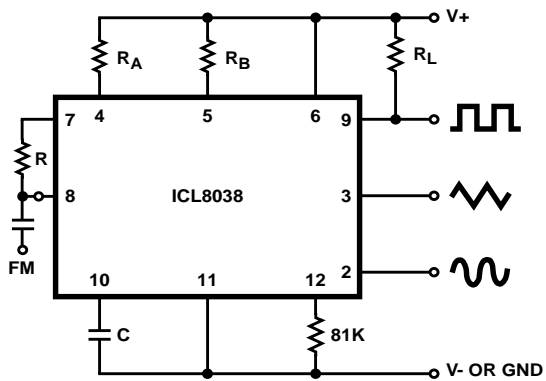

FIGURE 5A. CONNECTIONS FOR FREQUENCY MODULATION
- $V_{\text{SUPPLY}} = 20\text{V}$ ;  $R_A$  and  $R_B = 10\text{k}\Omega$ ,  $f \cong 10\text{kHz}$  nominal; can be extended 1000 to 1. See Figures 5A and 5B.
The frequency of the waveform generator is a direct function of the DC voltage at Terminal 8 (measured from  $V_+$ ). By altering this voltage, frequency modulation is performed. For small deviations (e.g.  $\pm 10\%$ ) the modulating signal can be applied directly to pin 8, merely providing DC decoupling with a capacitor as shown in Figure 5A. An external resistor between pins 7 and 8 is not necessary, but it can be used to increase input impedance from about 8kΩ (pins 7 and 8 connected together), to about  $(R + 8\text{k}\Omega)$ .